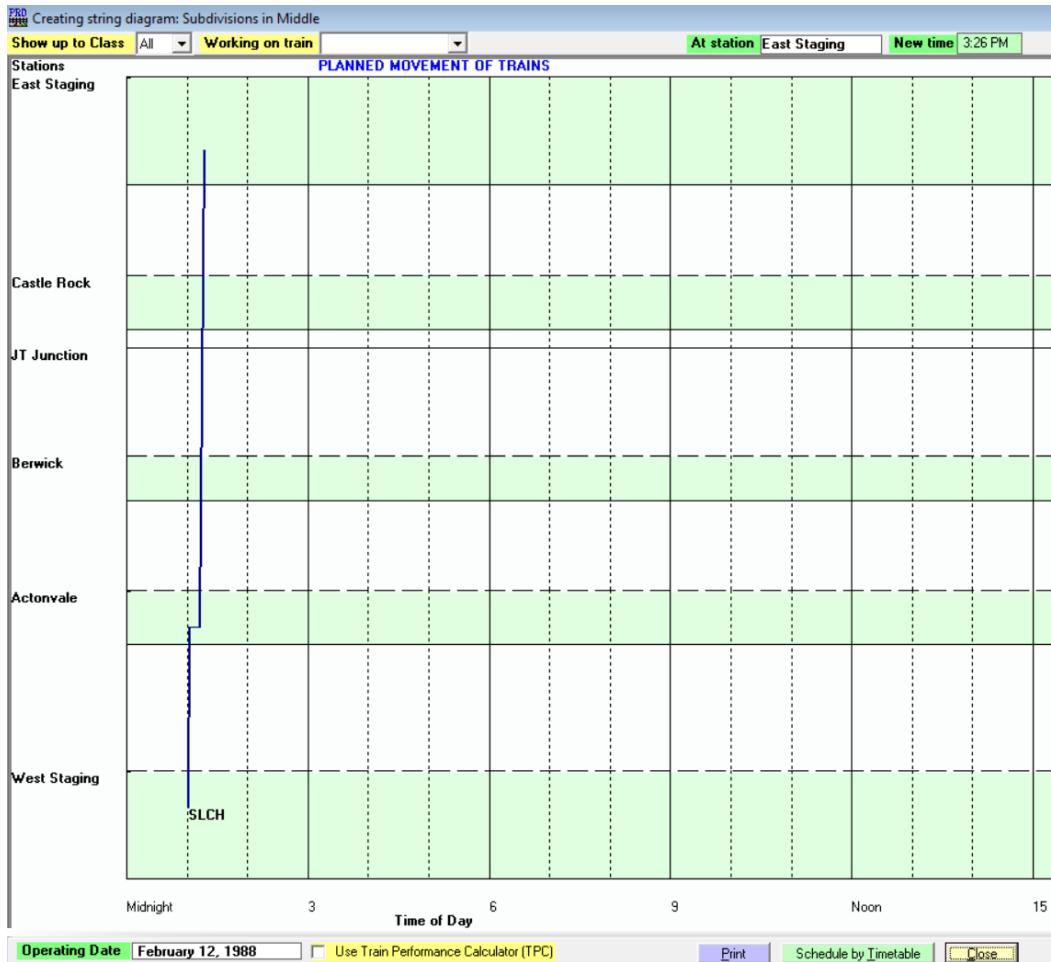

Figure 12-22
Either method results in opening the "Creating string diagram: subdivisions in Middle" window as shown in Figure 12-22
- i. Open the "Creating string diagram" window (see Figure 12-22) using either Scheduling/Create string diagram from the ProTrak menu or the "Schedule directly on String diagram" button from the "Train schedules" window".